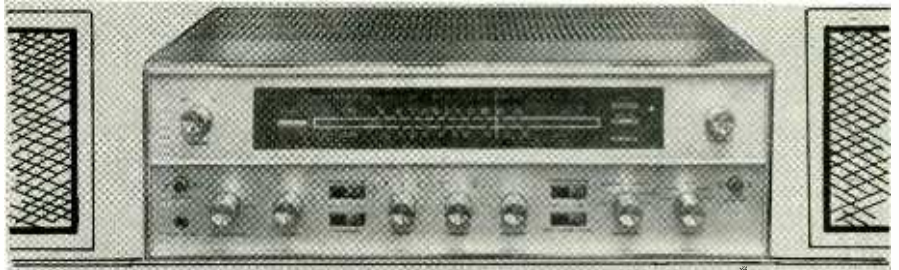

Fig. 5. Two loudspeaker clusters covering an open area from 100 to 1000 feet from the bandstand.
3. Approximately 100-ft. beyond the podium another time-delay "split" loudspeaker system was used to cover the area beyond that point. Two loudspeaker clusters, each consisting of two  $2 \times 4$  multicellular horns, identical to those used on the roof of the bandstand, were suspended from the limbs of trees, approximately 20-ft. apart and at a height of approximately 25 ft. (See Fig. 5.) Here, each upper horn was aimed ap-